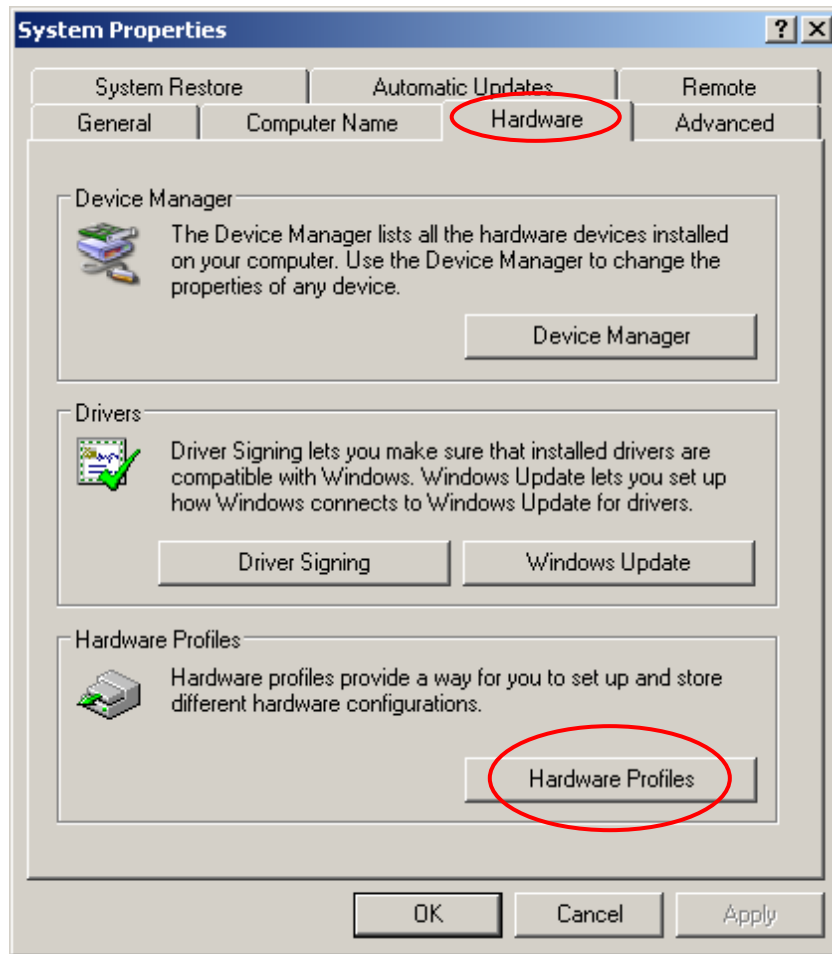
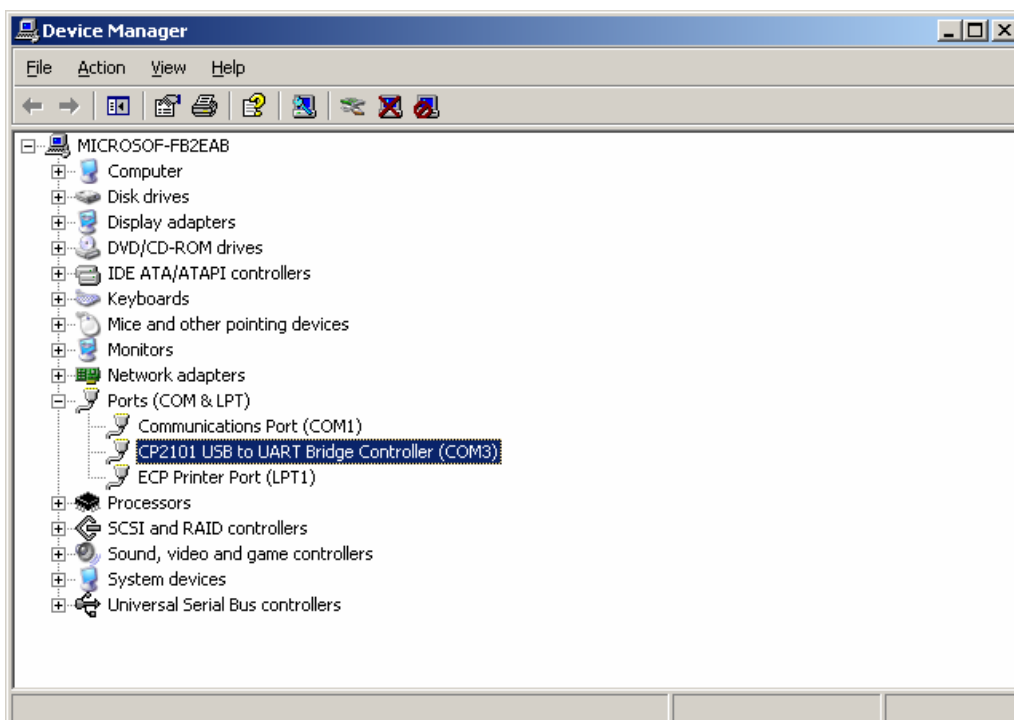

Figure 3-15
Figure 3-16
3.3.2 Please click “**Hardware**” item of System Properties, then the following interface will appear, as shown in Figure 3-15.
3.3.3 Click “**Hardware Profiles**” button in the interface as shown in Figure 3-15. The following screen will appear, “**COMx**” in the item “**CP2101 USB to UART Bridge Controller (COMx)**” is the serial port by which the oximeter communicates with the computer, (E.g. “**COM3**” in Figure 3-16).